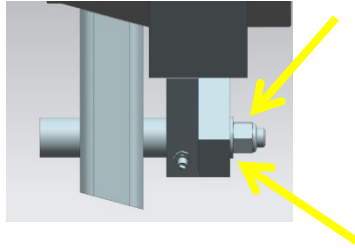

Figure 12: Nut, Washer, and Clamp Ring Pivot Pin
- E. Remove nut and washer from clamp ring pivot pin, see Figure 12.